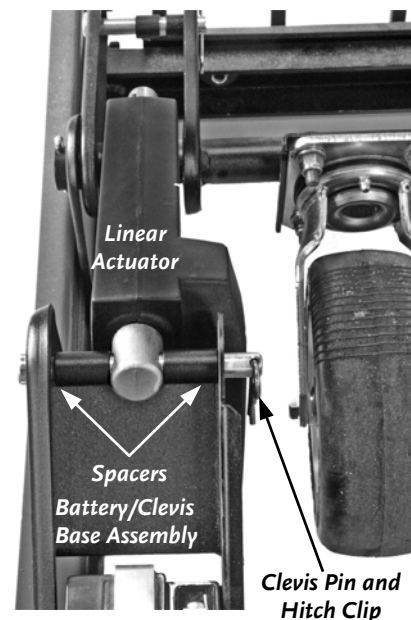

Figure 4
5. Remove the Hitch Clip, Clevis Pin, and the two (2) Spacers assembled in the Battery/Clevis Base Assembly (**Figure 4**).
6. Locate the Linear Actuator, and with the Motor facing down, insert the rear of the Actuator into the Battery/Clevis Base Assembly and reinsert the Spacers, Clevis Pin, and Hitch Clip (**Figure 4**).
NOTE: The Spacers go on either side of the Actuator (**Figure 4**).